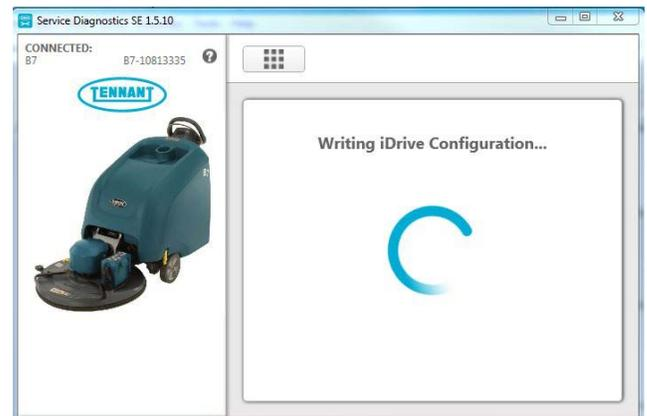

Fig. 18
- Programming may take several seconds to complete (Figure 18). Follow the instructions on screen if prompted to cycle key to complete process.